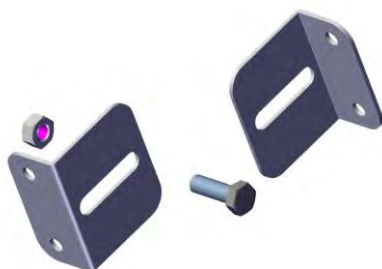

*Fig. 60: Installation of the front foot panelling*
16. Insert the front section of the foot panelling between the two devices and engage the bolts on the left and right in the spring clamps (Fig. 60).